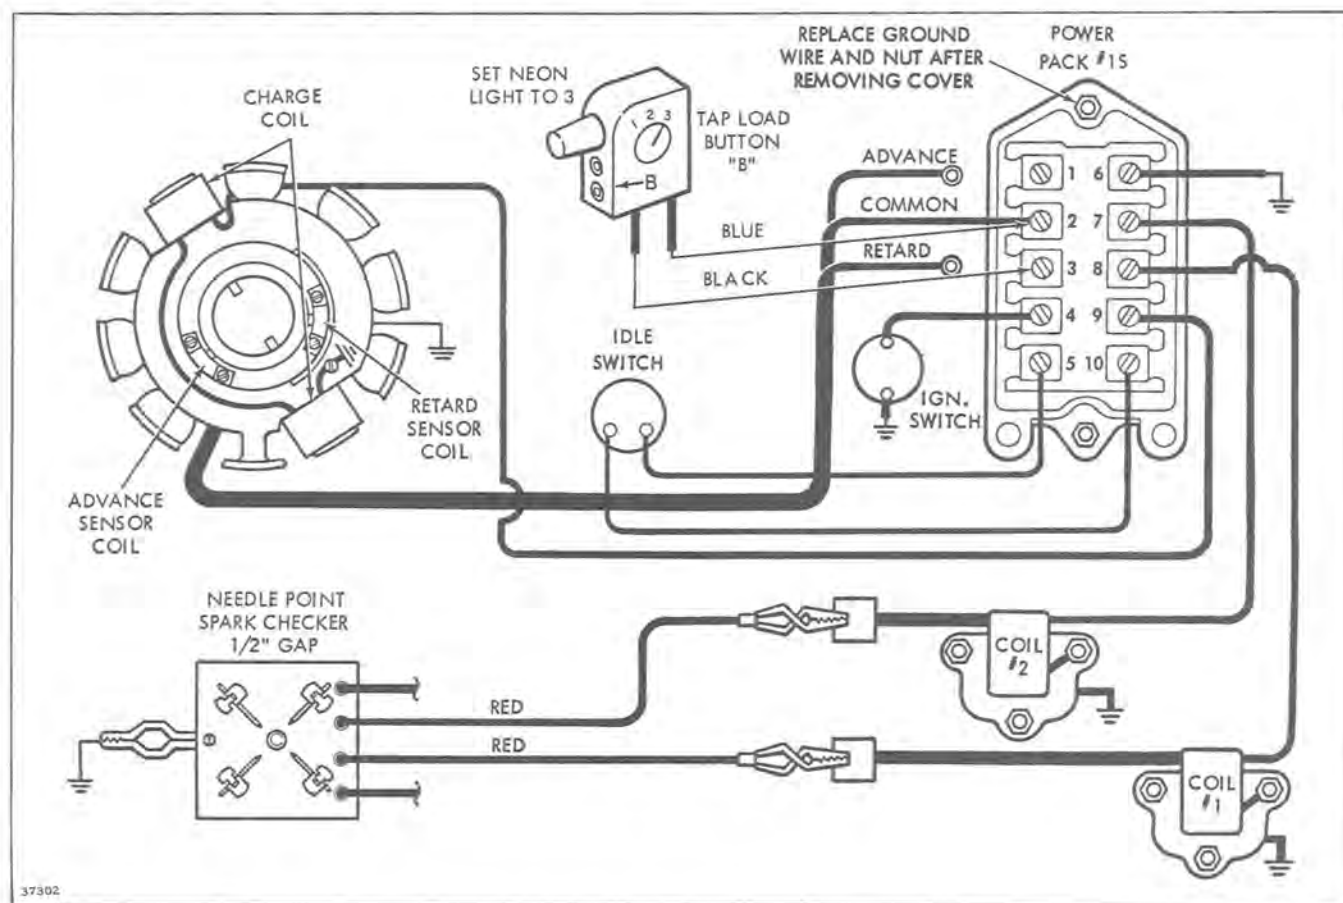

Figure 7-17
- A. Remove retard sensor white/green stripe lead and advance sensor lead white/black strip from Power Pack terminals #1 and #3. (Do not allow leads to touch ground.) See Figure 7-17.
- B. Connect neon tester S80 or M80 black lead to Power Pack terminal #3 and blue lead to sensor common (terminal #2). Set rotary switch to position #3. See Figure 7-17.
- C. Crank engine with electric starter or manual starter (with ignition switch in "RUN" position) and at same time rapidly tap neon tester load button "B." See Figure 7-17.